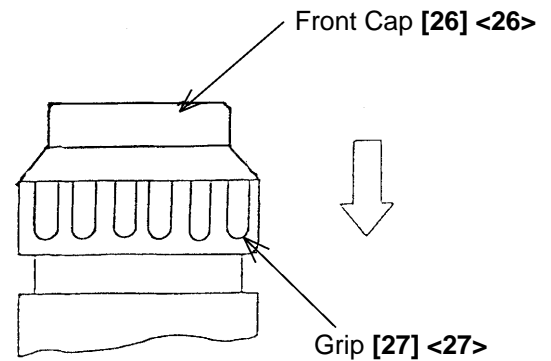

Fig. 8
(2) Disassembly of the Retainer Section
As shown in Fig. 8, slide the Grip **[27]** <27> in the direction indicated by the arrow, and remove the Front Cap **[26]** <26>. The Grip **[27]** <27>, the Ball Holder **[28]** <28> inside the Grip, the Holder Spring **[29]** <29>, Washer (B) **[30]** <30> and the Steel Ball **[14]** <14> can then be removed from the Retainer Sleeve **[15]** <15>.